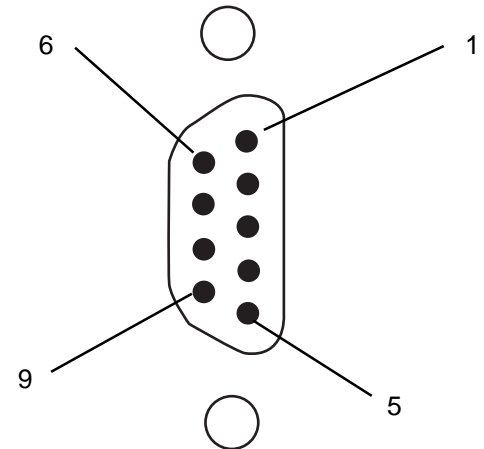
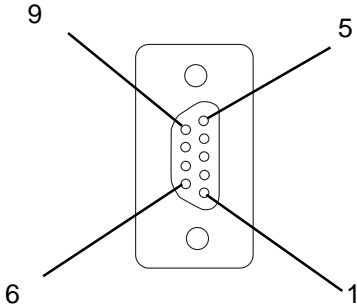
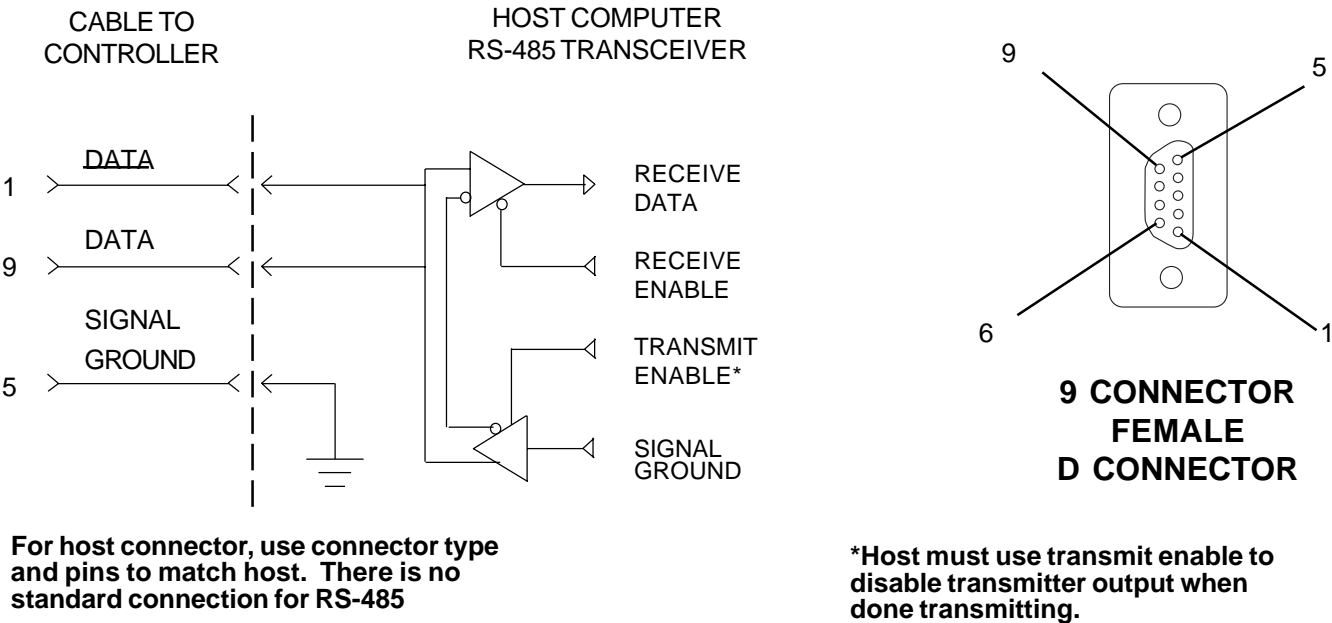

Figure 1:
Figure 3: RS-485 pass-through rear panel connector (female)
Figure 4: RS-485 cable to host computer
The RS-232 electrical interface is implemented using three wires, transmitted data†(TxD), received data (RxD), and signal ground (SG). RS-232 is not formally specified for distances greater than 50 feet (15 meters), although it may work. These connections on the 9-pin D connector are the same as the standard PC-AT connections for a DTE (data terminal equipment) device. These connections are given in Figure 1. Figure 2 shows a cable for connecting to other DTE devices using either the standard 25-pin D connectors or the PC-AT's 9-pin D connector.
RS-485 is a differential interface, implemented with two signal wires and a ground wire. This connection allows multiple devices to communicate on the same wires. This multidrop cabling method requires a unique address for each device on the bus. Figure 1 shows the connections on the main RS-232/RS-485 connector on the Communications Module. Figure 4 shows a cable for connecting to a host computer RS-485 port. Note that there is no standard for RS-485 connectors and the cable must be made for the specific device to be used on the other end. In order to maintain compliance with the CE Declaration of Conformity of the Controller, cables with a full braided shield, properly grounded at each end, must be used.
There is an additional RS-485 pass-through connector on the rear panel of the module, to allow the cable to continue on to other devices. Its pin connections are shown in Figure 3. Since the primary connector is male, the pass-through connector is female, and the pins used for the RS-485 signals are the same on both. This allows the Controller to be removed and bypassed by connecting the two cables together, leaving all other devices connected. The continuation cable will be similar to that shown in Figure 4 but with a male D connector (which has pin 1 on the opposite end so that it connects with pin 1 of the female connector).